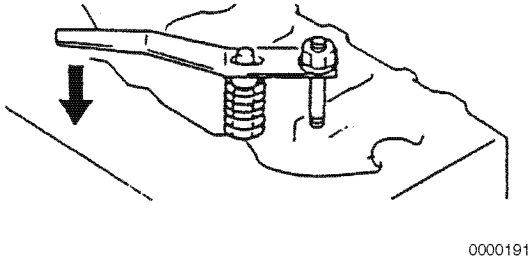

Figure 6-8
1. Put the cylinder head on the work bench with the combustion side down (**Figure 6-8**).
3. Using the valve spring compressor tool, compress one of the valve springs (**Figure 6-8**).